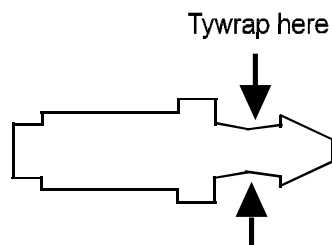

Figure 2
11. Install a tubing tie wrap (14276-108) over the tubing at the inlet ports as shown in Figure 2. Do not use cable tie wraps on tubing. Use only the tubing tie wraps provided in the TSB kit.
20. Install a tubing tie wrap (14276-108) over the tubing at the inlet ports as shown in Figure 2. Do not use cable tie wraps on tubing. Use only the tubing tie wraps provided in the TSB kit.